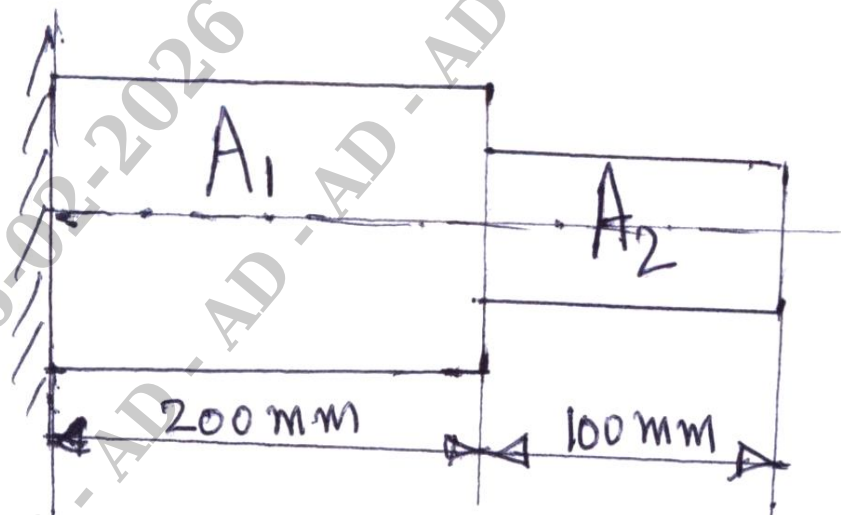

Fig. Q. 10 (b)
- b. For the stepped bar shown in fig. Q. 10 (b) determine the eigen values and eigen vector. Take $A_1 = 400 \text{ mm}^2$, $A_2 = 200 \text{ mm}^2$, $\rho = 7850 \text{ kg/m}^3$, $E = 200 \text{ GPa}$